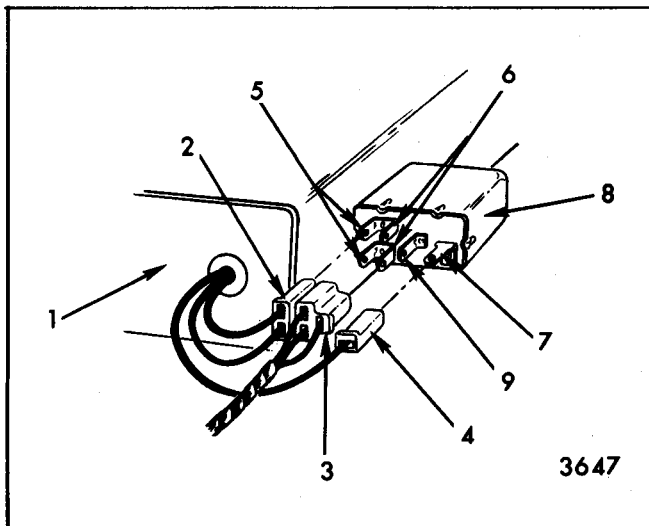

Fig. 15-43-Seat Adjuster Motor Control Relay
1. Disengage triple connector body from the seat motor relay terminal (Fig. 15-43).
1. Disconnect three motor leads (double and single connector) from relay assembly. These are the wires leading from the motor to the relay (Fig. 15-43).